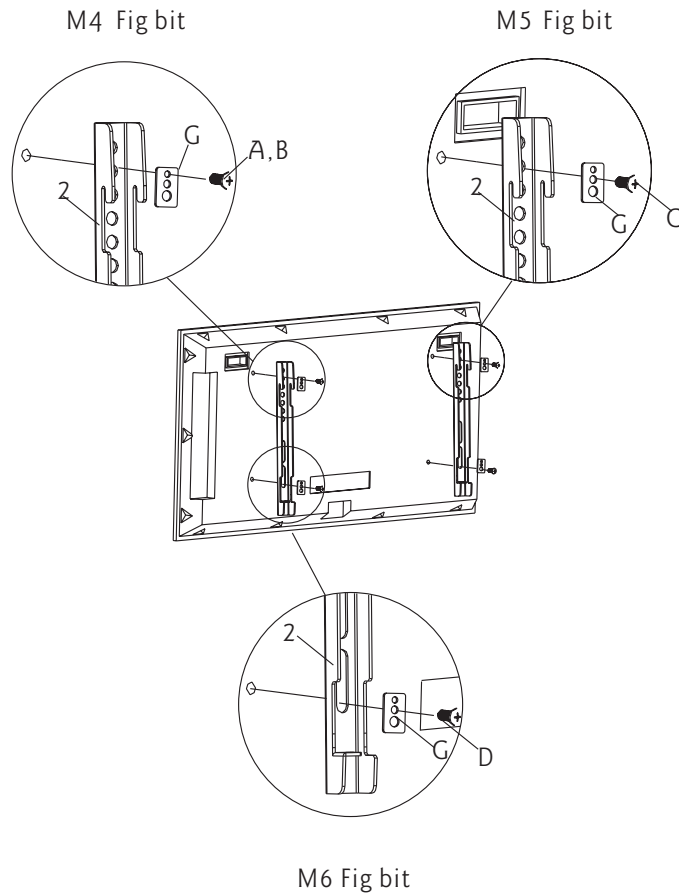

Fig 1a
1. Some displays have vertical backs. No spacer is required. Install the bracket directly to the back of display by using bolts and square washers provided. As shown in Fig. 1a.